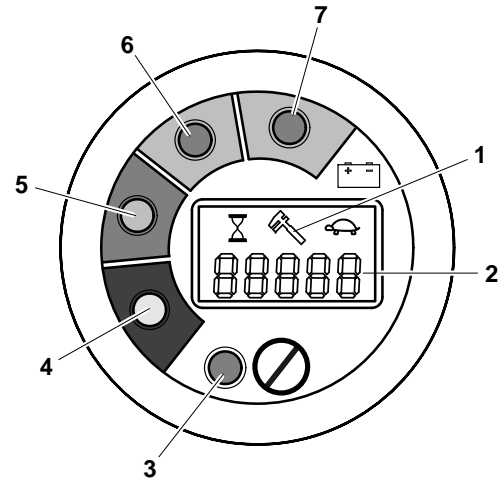

Figure 3-4. MDI Indicator
A **wrench icon (item 1)** will display on the **Diagnostic Trouble Code LCD display (item 2)**. (See Figure 3-4.)
- A three to five digit DTC code will display on the **Diagnostic Trouble Code LCD display (item 2)**, below the wrench icon.
- The system distress **LED indicator (RED) (item 3)** lights up solid on the MDI when a DTC Code is displayed on the LCD display.